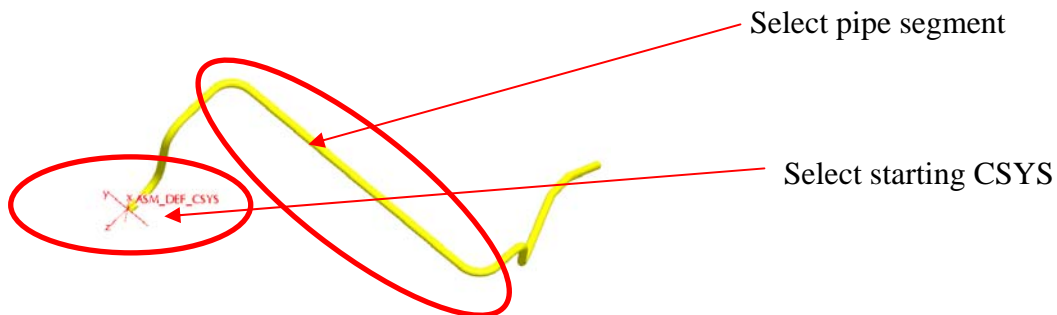

Figure 20
4.8.3 When prompted, select a segment of the pipe and the starting CSYS. (See Figure 20)
- 4.8.6 When prompted, select a segment of the pipe. (See Figure 20)